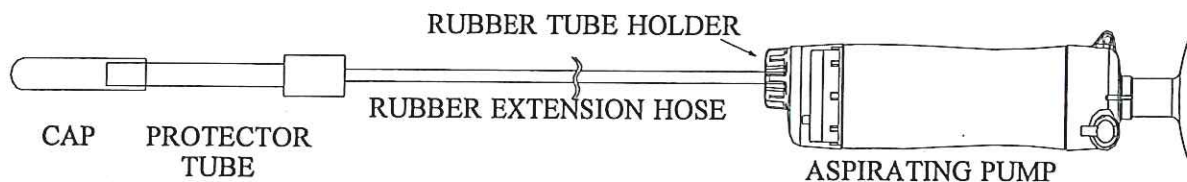

Fig.1
1. Remove the rubber tube holder and rubber tube connector from the detector tube connecting part of an aspirating pump and connect the rubber extension hose with the pump as shown in Fig.1.
1. Insert a sealed, unbroken detector tube into the protection tube of the rubber extension hose as shown in Fig.1.